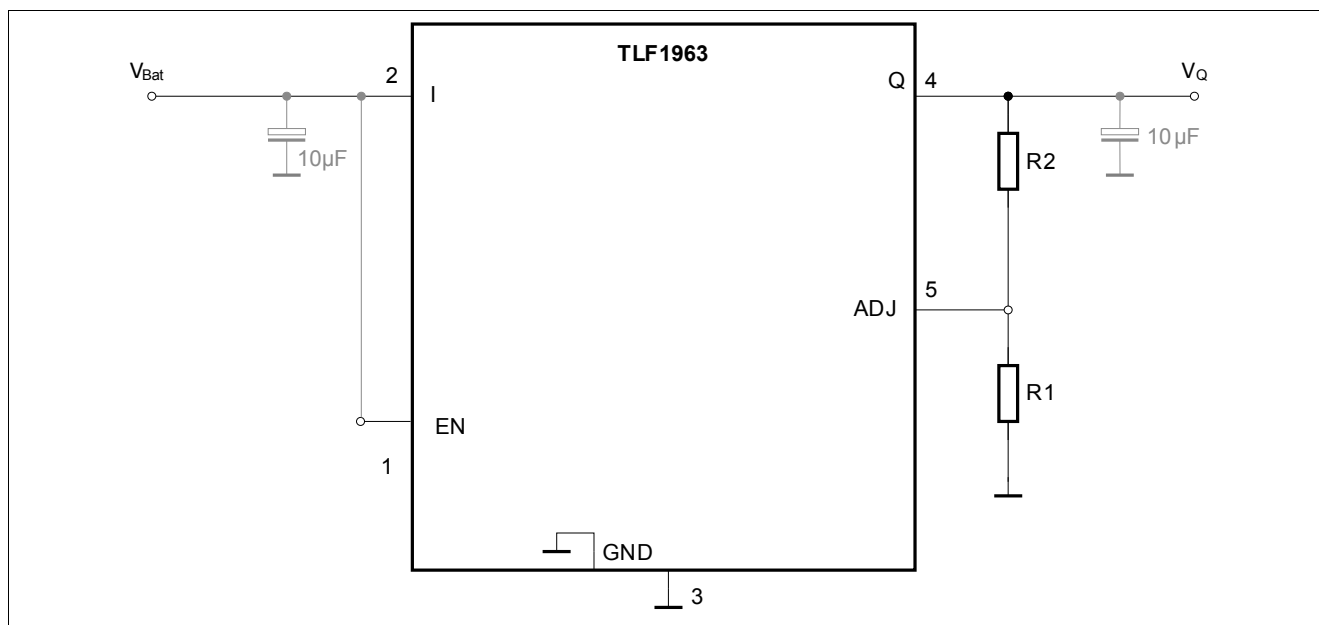

Figure 4 Application Diagram
The TLF1963 has an output voltage range of 1.21 V to $V_I - V_{dr} < 20$ V. The output voltage is set by the ratio of two external resistors as shown in **Figure 4**. The device serves the output to maintain the voltage at the ADJ pin at 1.21 V referenced to ground. The current in R1 is then equal to $1.21 \text{ V} / R_1$ and the current in R2 is the current in R1 plus the ADJ pin bias current. The ADJ pin bias current, 1 µA at 25 °C, flows through R2 into the ADJ pin. The output voltage can be calculated using the formula in **Equation (1)**.